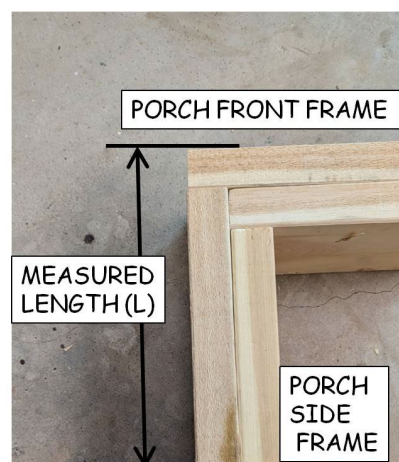

Figure 6-3. Porch Framing Corner Detail.
7. At the joist hanger locations, use the straight 2x4 and level to check that the 1½" mark and face of the cleat(s) is plumb. If not adjust the mark. Determine the length of the porch side frame pieces by measuring from the (adjusted) 1½" mark to the post corner location from Step 1, above. Referring to Figure 6-3, subtract 1½" to get the working length of the outside frame piece, and subtract 3" to get the length of the inside frame piece.